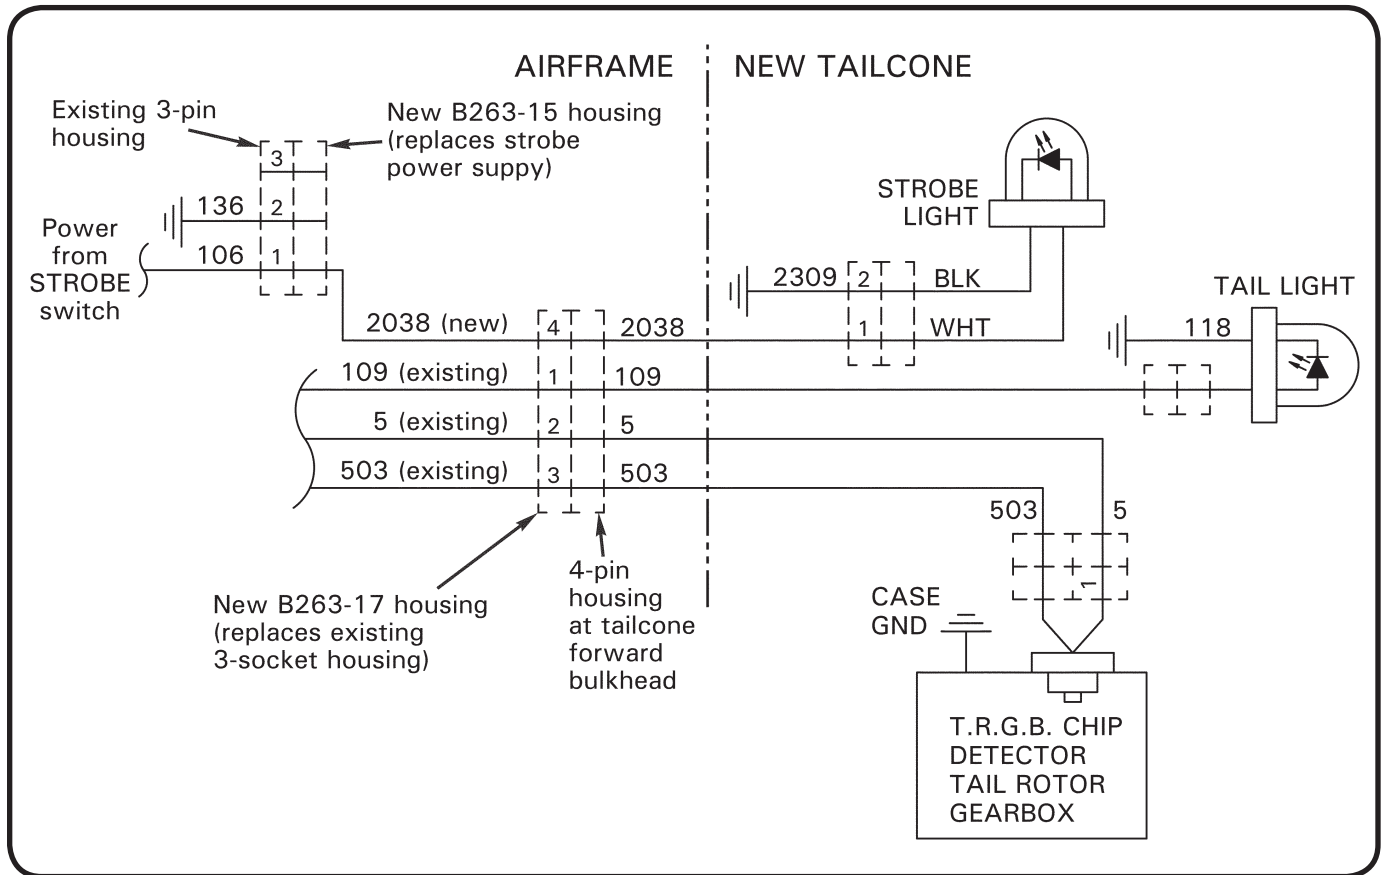
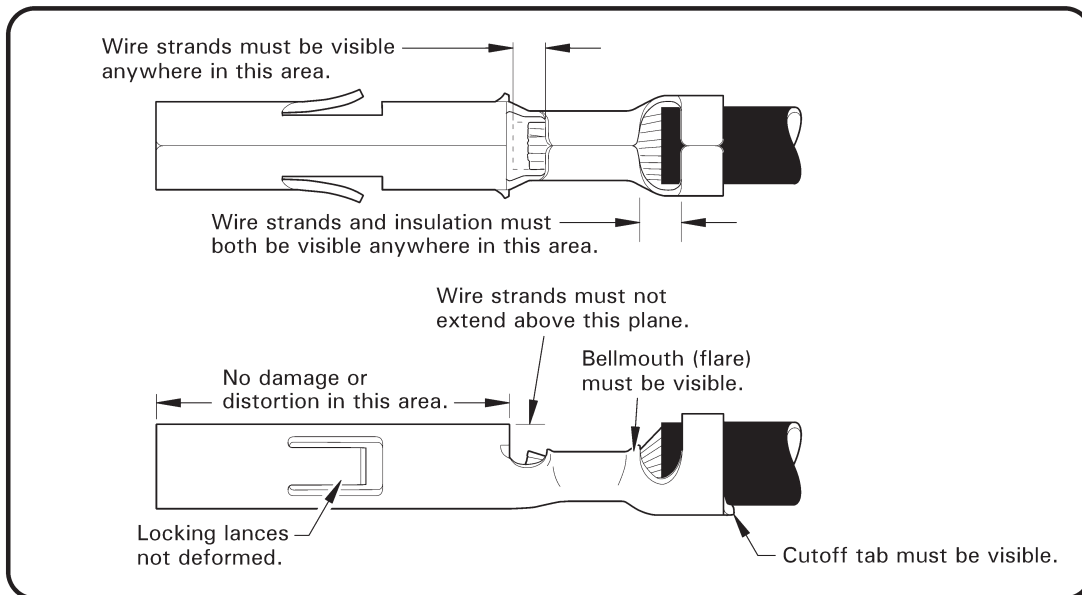

FIGURE 1 Wiring schematic
FIGURE 2 Crimp Inspection
3. Near tailcone attachment, locate within airframe harness the 3-socket housing containing wires (-5), (-109), & (-503). Extract sockets from housing or cut wires as close to housing as possible. Discard removed housing. As required, strip wires (-5), (-109), & (-503) and crimp a new B263-2 socket on each wire. Perform crimp inspection per Figure 2. Verify security of sockets.
4. Refer to Figure 1. Install sockets and attached wires (-5), (-109), & (-503) into new B263-17 (4-socket) housing at locations shown. Install socket and attached wire of new KI-204-2038 wire assembly into remaining location in housing. Verify security of sockets in housing. Slide B158-10-1.25 heat shrink over housing wire entrance and apply heat.
6. Refer to Figure 1. Disconnect remaining (power) connector from strobe power supply and remove power supply & associated mounting hardware. Verify KI-204-2038 wire has sufficient length to connect to strobe (power) connector and trim wire to length. Crimp B263-2 socket on wire. Perform crimp inspection per Figure 2. Verify security of socket. Install socket and attached wire to new B263-15 housing. Verify security of socket in housing. Connect new B263-15 housing to strobe (power) connector and secure with appropriately-sized ty-raps.
8. Install tailcone assembly per R22 Maintenance Manual (MM) § 4.312, or R44 MM § 4.300, if not already installed.